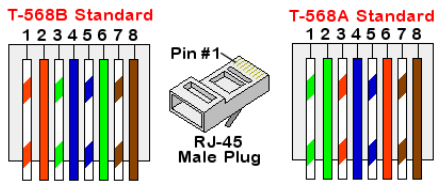

Figure 24: Standard cable wiring
- c. Insert the eight wires into an RJ45 connector, as described in Figure 24
8. For the switch/router side, use a pre-crimped cable or use a crimper to prepare an RJ45 communication connector: Insert the eight wires into the RJ45 connector in the same order as above (Figure 24).